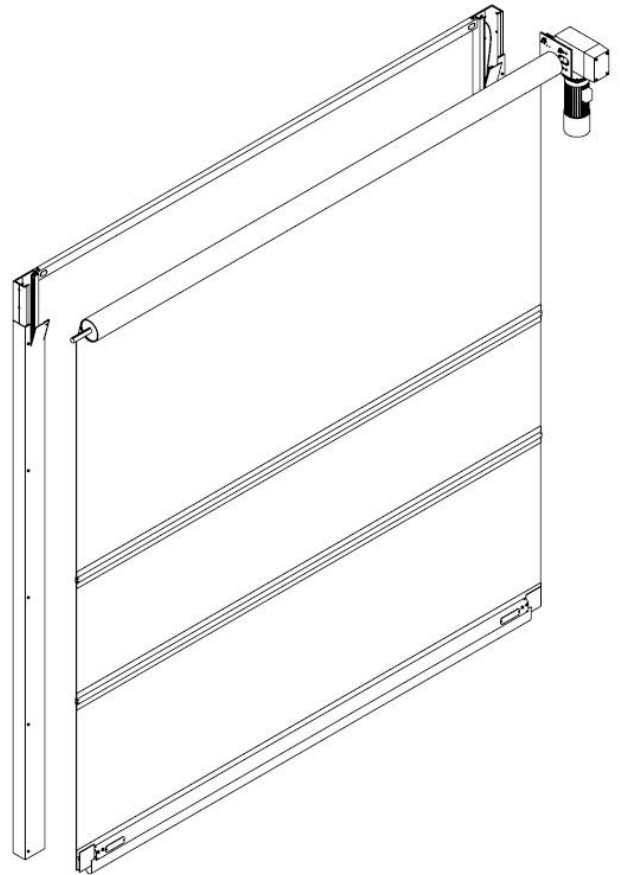

Figure 11
16. The drive unit and limits will already be attached to the top roll assembly. Lift the top roll assembly out of the crate and position it on the forks of a properly rated genie lift or fork lift. The fabric must roll off the back of the roll facing the wall with the drive unit on the proper side (refer to shop drawing for drive side) (Figure 11).